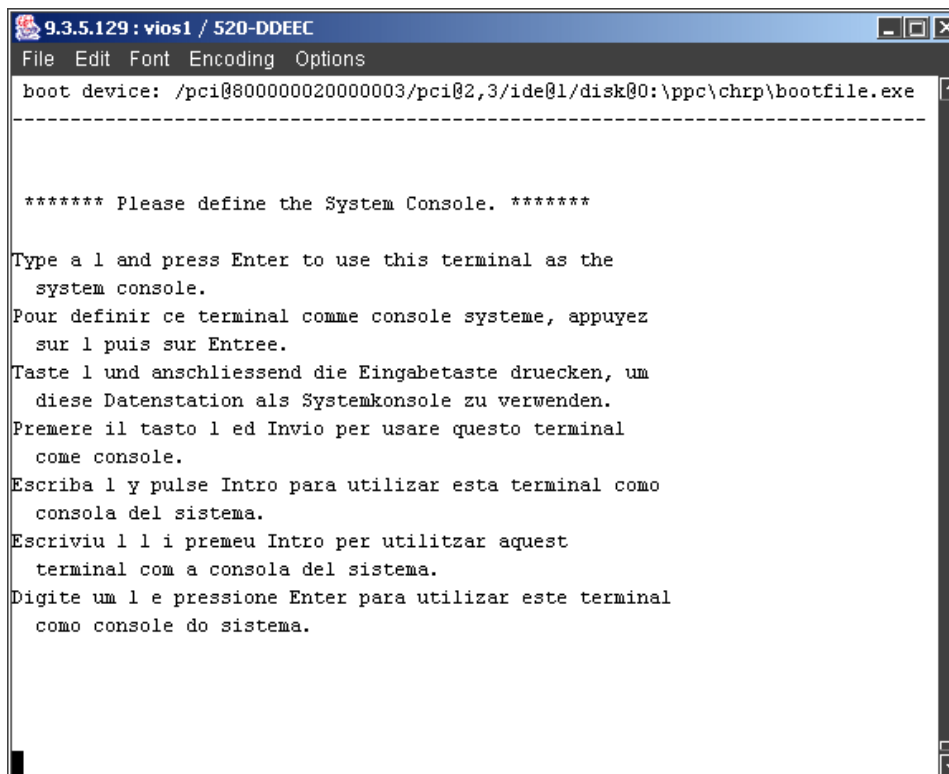

Figure 5-1 Define the System Console
13. The partition will now boot from the Migration DVD. Figure 5-1 shows the menu appearing after a few moments. Select the desired console and press Enter.